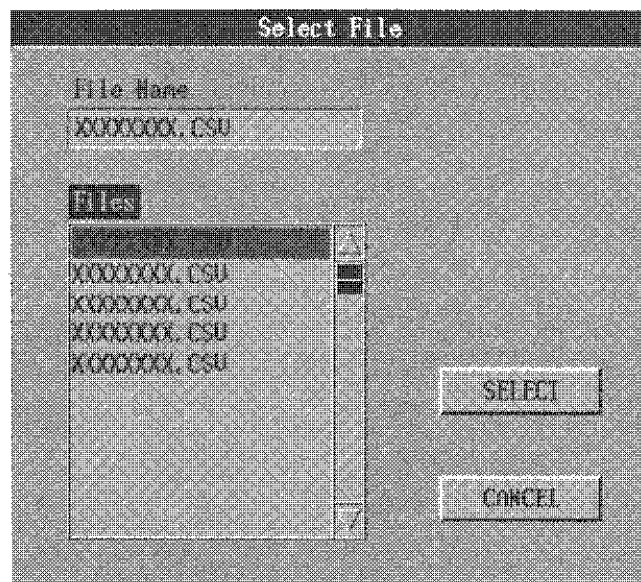

Figure 3-19: Select File Pop-up screen
- Press the ENTER key. The Select File Pop-up Screen will appear (*figure 3-19*).